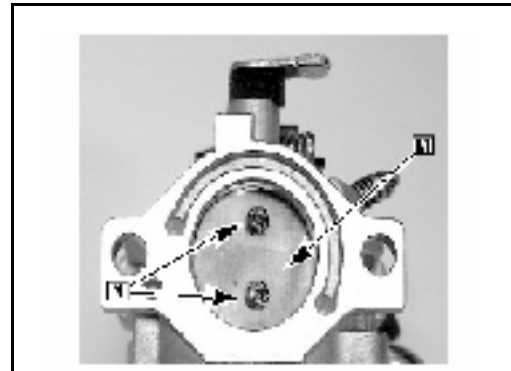

Fig. 144
11. Lay the throttle plate (M) on the flat of the throttle shaft. Install two screws ([N] Fig.144).